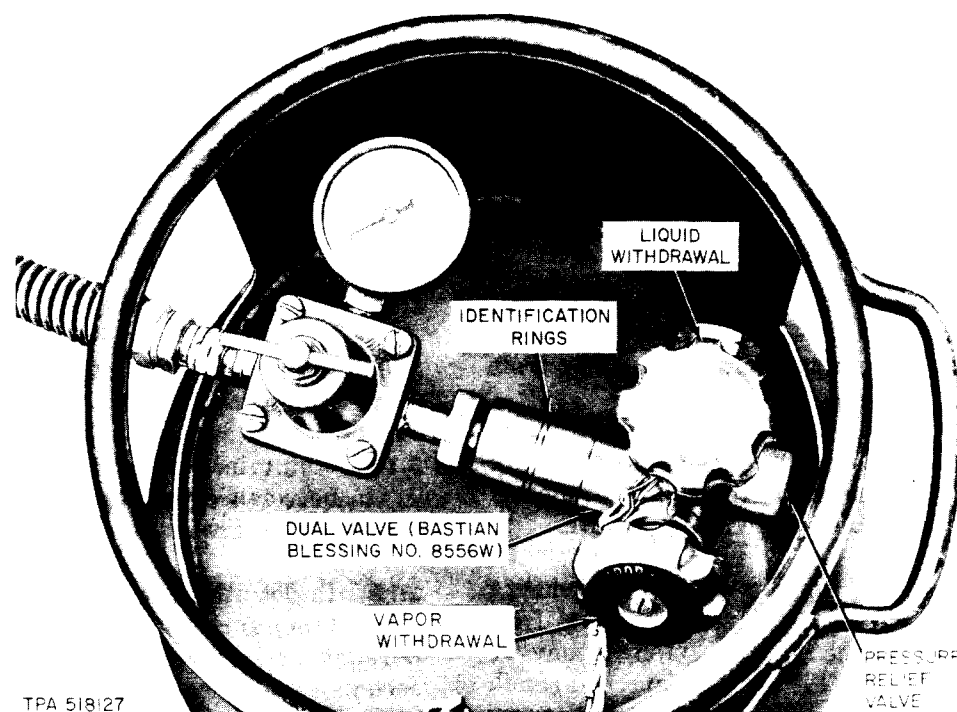

Fig. 2—D or E LP-Gas Cylinder♦
Bastian-Blessing No. 8556WD for D Cylinders and No. 8556WE for E Cylinders, supplied with all new cylinders. The "W" series valves (Fig. 2) are designed having excess flow control for both vapor and liquid sides, whereas the "B" valve provided the excess flow check valve only on the liquid side. The new valves are marked with two circumferential rings cut into the cylindrical portion of the valve near the outlet to distinguish them from the early type valve.♦
2.06 The pressure relief valve (Fig. 2) is a device designed to protect the cylinder from dangerously high pressures. Fuel is retained at normal pressures but the valve opens in the event of excessive pressure. Excessive pressures may occur as a result of either overheating or overfilling. Measures must be taken to ensure the proper functioning of relief valves. They are mounted to come in contact with the vapor space of the cylinders when the cylinders are in a vertical position. *When these cylinders are not in a vertical position, the proper functioning of the pressure relief valve may be prevented. It is therefore necessary that these cylinders be maintained in a vertical position at all times.*